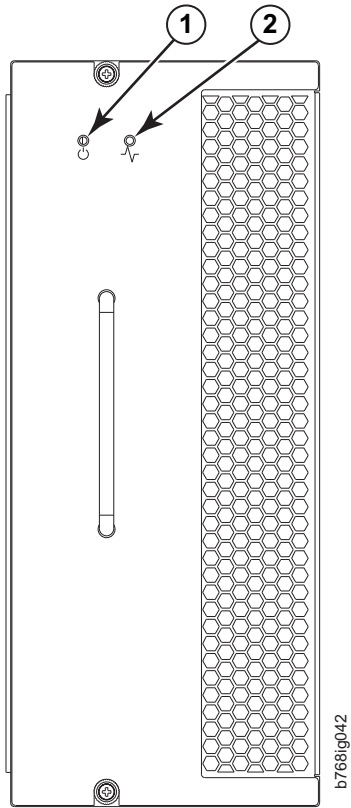

Figure 27. Blower assembly LEDs
1. Check the LED indicators on the blower assembly (see Figure 27 on page 76). The LED patterns may temporarily change during POST and other diagnostic tests; for information about how to interpret the LED patterns, see Table 11 on page 76. The system has three blower assembly modules. Be sure to check each module.